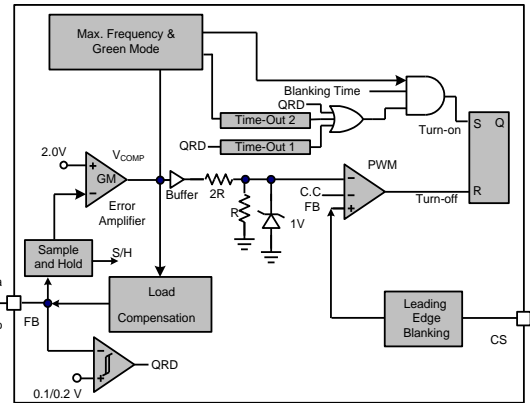

Fig. 20
The LD7515L employs quasi-resonant (QR) switching scheme to switch in valley-mode either in CV or CC operation. This will greatly reduce the switching loss and the ratio dv/dt in the entire operating range for the power supply. Fig. 20 shows the typical QR detection block. The QR detection block will detect auxiliary winding signal to drive BJT as FB pin voltage drops to 0.1V. The QR comparator will not activate if FB pin voltage remains above 0.2V.